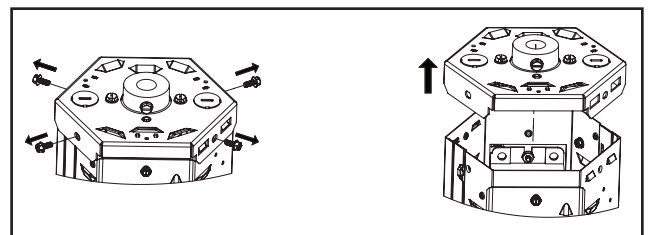

Figure 2.
2. Remove TOP enclosure from fixture - (4) #8 Hex head screws. (Figure 2.)